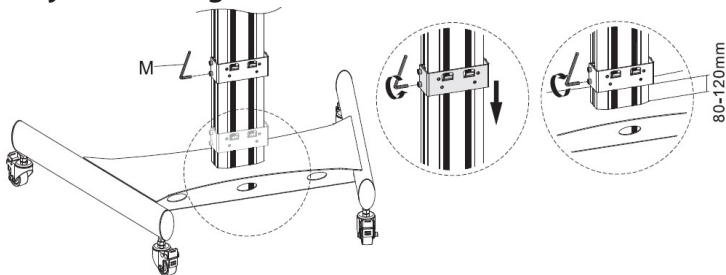

Figure 11
1. Loosen (but do not remove) the four **Hex Screws** located on the sides of the **CPU Holder Bracket**, using the **5 mm Hex Key (M)**. (Figure 11)
3. Tighten the four **Hex Screws** located on the sides of the **CPU Holder Bracket**, using the **5 mm Hex Key (M)**. Ensure the Hex Screws are fastened enough to support the weight of the **CPU**.